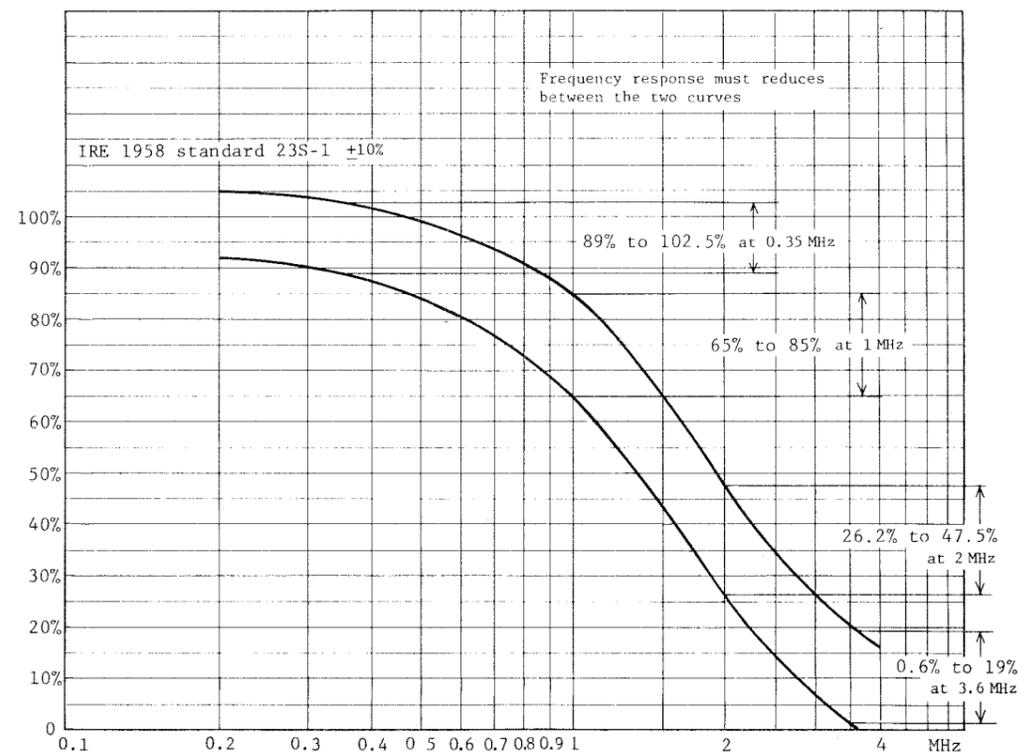

Fig. 4-1 Frequency response at IRE.
15. Set the RESPONSE control to IRE. A modulated staircase signal will be displayed as shown in Fig. 6-3. In this setting, a frequency response reduces as shown in Fig. 4-1.